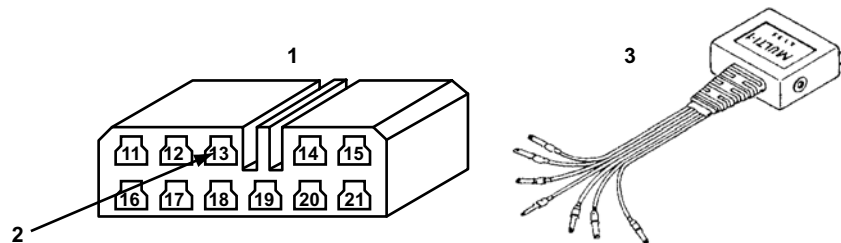

Figure 15-19 11-pin Check connector
- Connect the blue wire of the MULTI-1 adapter to pin 13 of the Check connector (Figure 15-19).